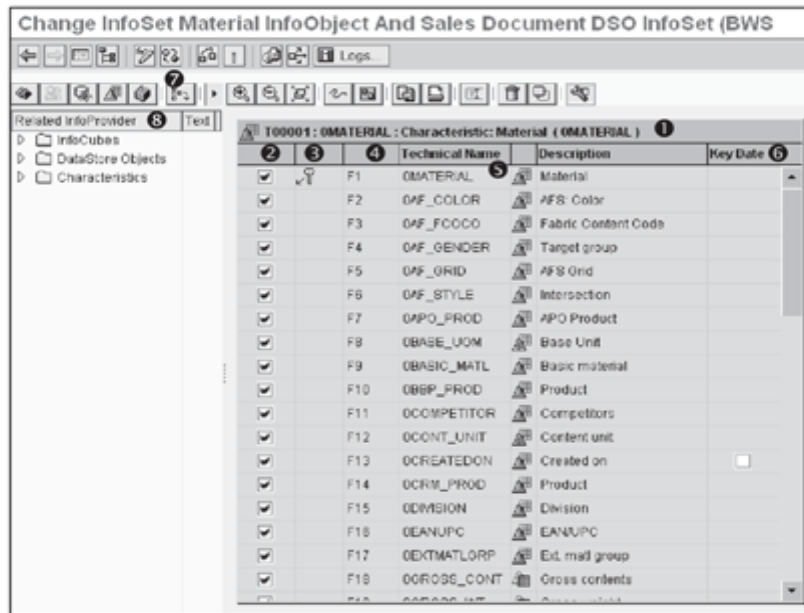
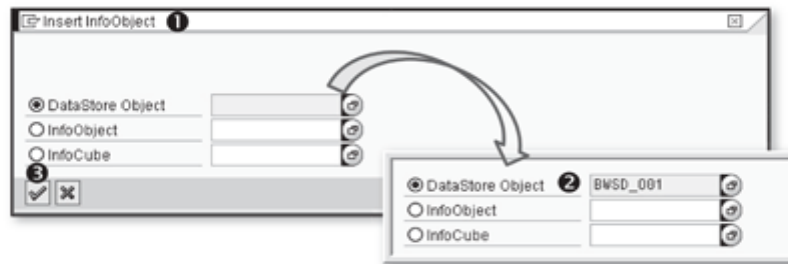

Figure 6.19 Create InfoSet: Understanding the Initial Screen
Figure 6.20 Create InfoSet: Inserting Second Source
The Start With InfoProvider area allows you to supply the technical name of the first source you want to include in the definition of your InfoSet BWSD_IS1. In our example, we want to include an InfoSet based on an InfoObject OMATERIAL and DSO object BWSD_O01. Select the InfoObject radio button, and enter the name of the InfoObject OMATERIAL (❻). Now click on the continue  icon (❼). The resulting screen is shown in Figure 6.19.
InfoObject OMATERIAL is included as part of InfoSet BWSD_IS1. SAP NetWeaver BW internally allocates the number T00001 to the first object that is included in this definition (see ❶ of Figure 6.19). For the subsequent objects you include, it gives the number T00002, and so on.
Column ② of Figure 6.19 allows you to decide whether you want to include the particular attribute of 0MATERIAL InfoObject in the final definition of the InfoSet. By default, SAP NetWeaver BW includes all of the attributes.
Now you're ready to include your next source in the definition of InfoSet BWSD_IS1. Select the Insert InfoProvider icon  as shown in 7 of Figure 6.19. A pop-up box titled Insert InfoObject appears as shown in 1 of Figure 6.20. Three choices (DataStore Object, InfoObject, and InfoCube) are available as InfoSet definitions and can include either of the objects. Our example InfoSet is based on InfoObject 0MATERIAL and DSO BWSD_O01.
Next, select the DataStore Object radio button (if not selected already), and enter the technical name "BWSD_O01" as shown in 2 of Figure 6.20. Now click on the continue icon  (3).